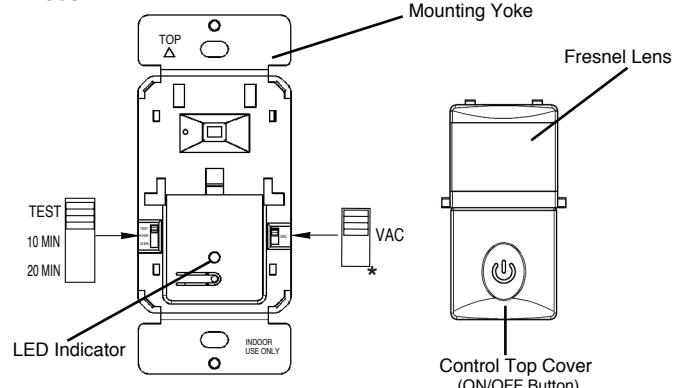

Figure 4
7. Select Time Delay option, either Test which is 15 seconds, 10 minutes or 20 minutes (see Figure 4)
\*NOTE: If Band switch is in blank position (as shown in Figure 4), the sensor function is disabled.